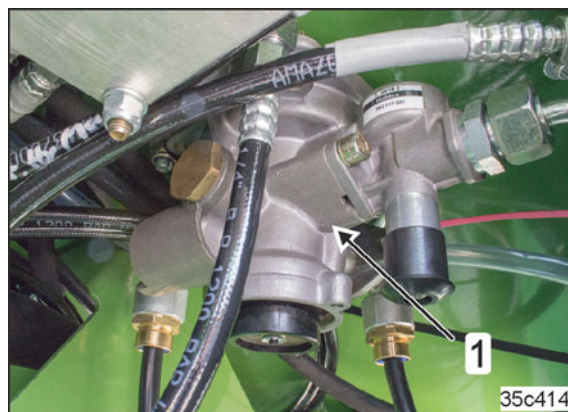

Fig. 32
- a trailer brake valve (Fig. 32/1).